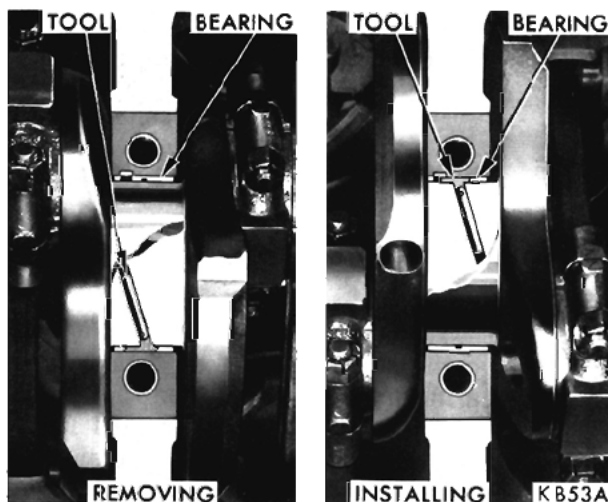

Fig. 116—Removing or Installing Main Bearing
C-3059 (Fig. 116) into the oil hole of the crankshaft.
(1) Start bearing in place, and insert Tool C-3059 into the oil hole of the crankshaft (Fig. 116).
(2) Slowly rotate the crankshaft counter-clockwise sliding the bearing into position.